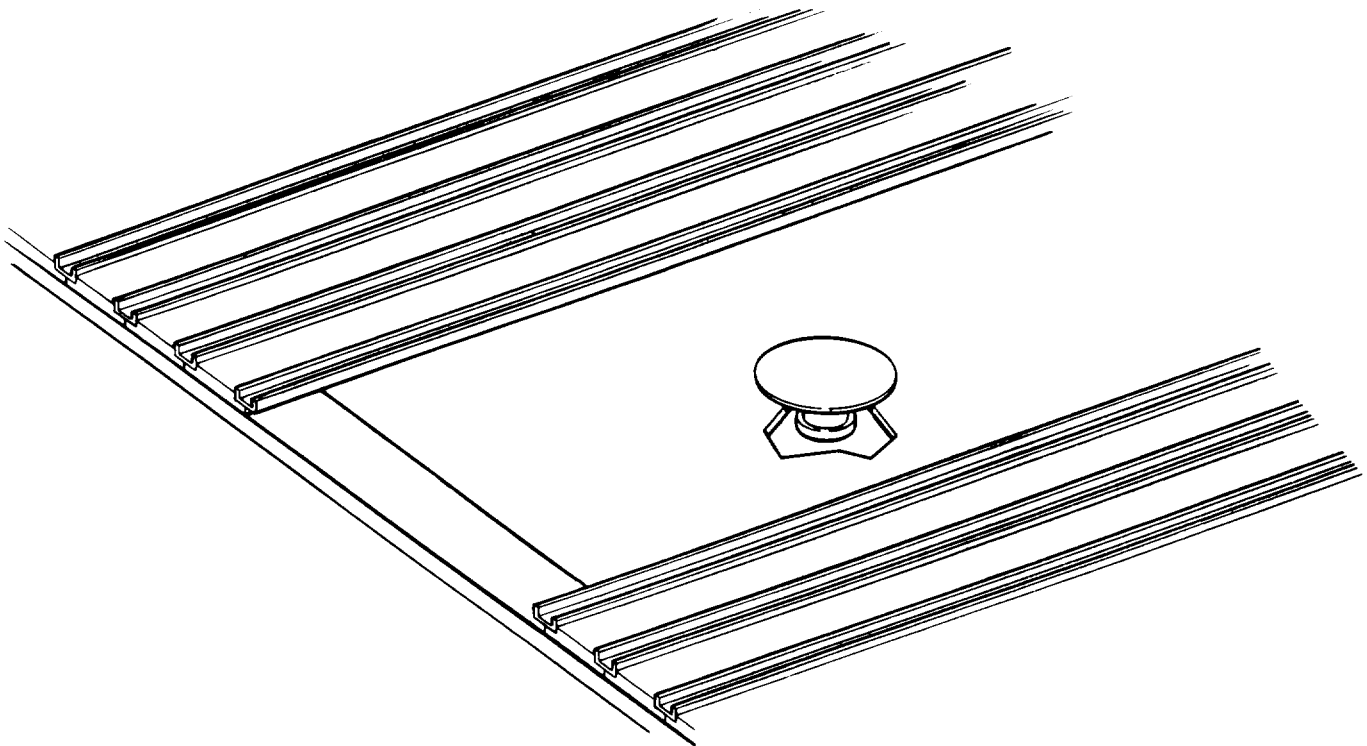

Figure 5-5. Trailer deck and kingpin
a. Remove the amount of trailer deck required to gain access to the top surface of the kingpin (para. 5-10) (figure 5-5).